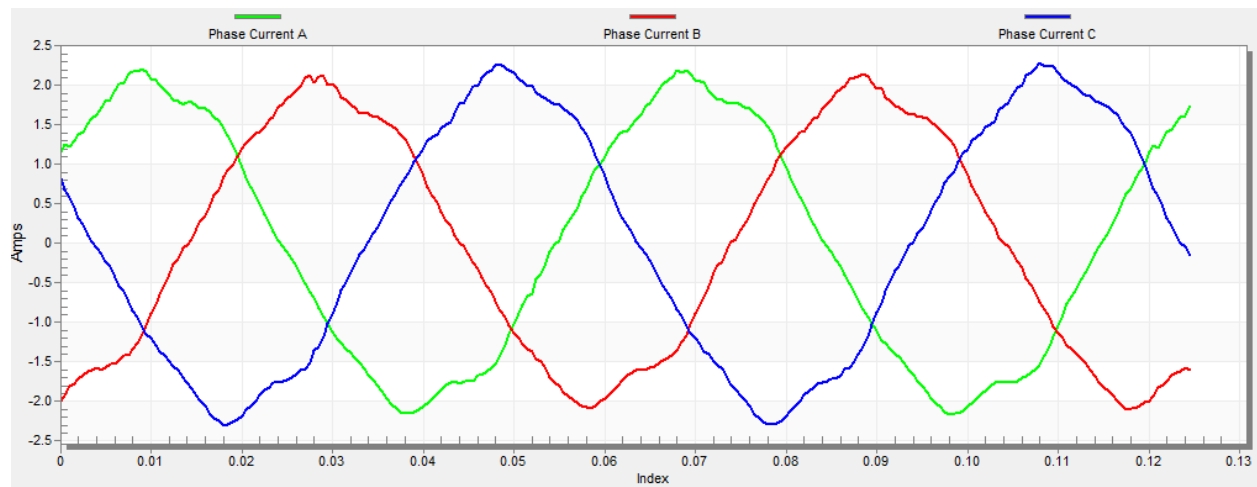

Figure 24. Phase currents
- The optimal ratio for the V/Hz profile can be found by changing the V/Hz factor directly using the “M1 V/Hz factor” variable. The shape of the motor currents should be close to a sinusoidal shape (Figure 24). Use the following equation for calculation V/Hz factor: